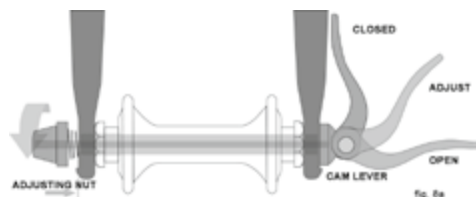
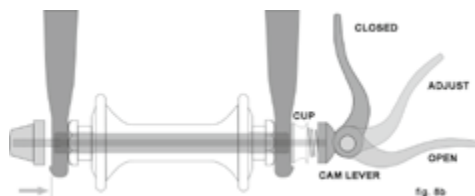

fig. 8a
fig. 8b
There are currently two types of over-center cam wheel retention mechanisms: the traditional over-center cam (fig. 8a) and the cam-and-cup system (fig. 8b). Both use an over-center cam action to clamp the bike's wheel in place. Your bicycle may have a cam-and-cup front wheel retention system and a traditional rear wheel cam action system.
a. Adjusting the traditional cam action mechanism (fig. 8a)
b. Adjusting the cam-and-cup mechanism (fig. 8b)
(2) If your bike has cam action front wheel retention, move the cam lever from the locked or CLOSED position to the OPEN position (figs. 8a & b). If your bike has through bolt or bolt-on front wheel retention, loosen the fastener(s) a few turns counter-clockwise using an appropriate wrench, lock key or the integral lever.
(3) If your front fork has a clip-on type secondary retention device, disengage it. If your front fork has an integral secondary retention device, and a traditional cam action system (fig. 8a) loosen the tension adjusting nut enough to allow removing the wheel from the dropouts. If your front wheel uses a cam-and-cup system, (fig. 8b) squeeze the cup and cam lever together while removing the wheel. No rotation of any part is necessary with the cam-and-cup system.
(1) If your bike has cam action front wheel retention, move the cam lever so that it curves away from the wheel (fig. 8b). This is the OPEN position. If your bike has through bolt or bolt-on front wheel retention, go to the next step. Make sure that the brake disc is positioned on the correct side so it can fit in the caliper.
(2) With the steering fork facing forward, insert the wheel between the fork blades so that the axle seats firmly at the top of the fork dropouts. The cam lever, if there is one, should be on rider's left side of the bicycle (fig. 8a & b). If your bike has a clip-on type secondary retention device, engage it.
(3) If you have a traditional cam action mechanism: holding the cam lever in the ADJUST position with your right hand, tighten the tension adjusting nut with your left hand until it is finger tight against the fork dropout (fig. 8a). If you have a cam-and-cup system: the nut and cup (fig. 8b) will have snapped into the recessed area of the fork dropouts and no adjustment should be required. (4) While pushing the wheel firmly to the top of the slots in the fork dropouts, and at the same time centering the wheel rim in the fork:
(a) With a cam action system, move the cam lever upwards and swing it into the CLOSED position (fig. 8a & b). The lever should now be parallel to the fork blade and curved toward the wheel. It should point backwards to avoid being opened by contact while riding. To apply enough clamping force, you should have to wrap your fingers around the fork blade for leverage, and the lever
(3) On a derailleur gear system, pull the derailleur body back with your right hand.
(4) With a cam action mechanism, move the quick-release lever to the OPEN position (fig. 8b). With a through bolt or bolt on mechanism, loosen the fastener(s) with an appropriate wrench, lock lever or integral lever; then push the wheel forward far enough to be able to remove the chain from the rear sprocket.
(5) Lift the rear wheel off the ground a few inches and
Some bikes are equipped with a cam action seat post binder. The seat post cam action binder works exactly like the traditional wheel cam action fastener (Section 4.A.2) While a cam action binder looks like a long bolt with a lever on one end and a nut on the other, the binder uses an over-center cam action to firmly clamp the seat post (see fig. 8a).